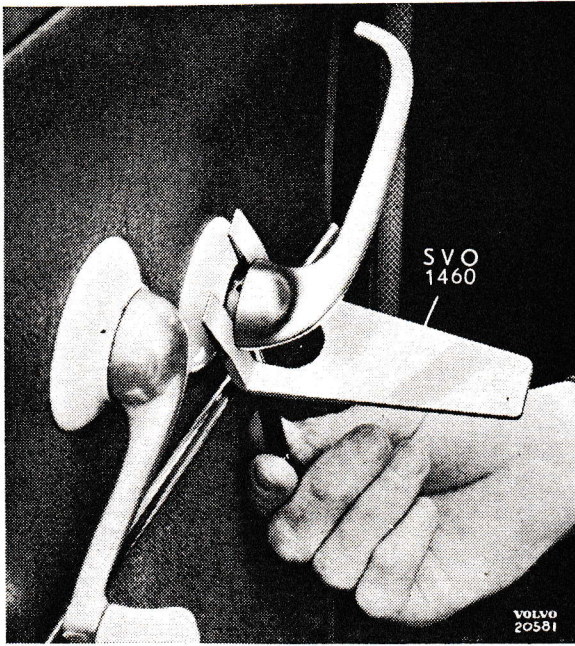

Fig. 16. Removing the door handle.
1. Remove first the door handle, arm rest and window regulator. The door handle and the window regulator are removed as shown in Fig. 16.
1. Remove the arm rest, the inner door handle and the window regulator. The door handle and the window regulator are removed by using tool SVO 1460 as shown in Fig. 16.
2. Remove window regulator and inner door handle. These are removed by using tool SVO 1460 as shown in Fig. 16.